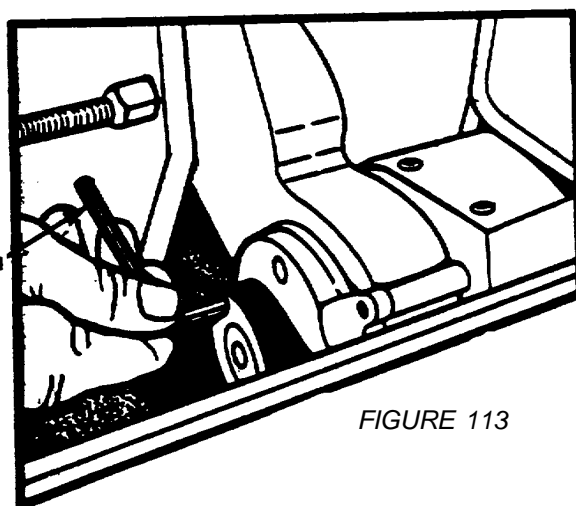

FIGURE 113
- f. See Figure 113. Rotate arm position knob clockwise with T-Wrench until Back Plate is as far back as it will go.